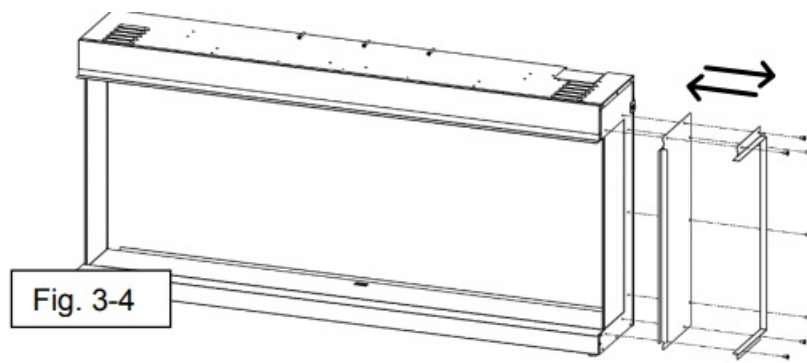

Fig. 3-4
- Remove the side plates from both sides of the fireplace. Store the plates in a safe place (Fig. 3-4).